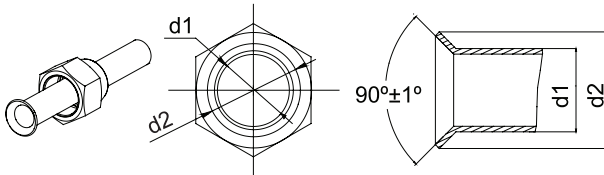

Fig.12
- (1). Cut the connection pipe with the pipe cutter and remove the burrs.
- (2). Hold the pipe downward to prevent cuttings from entering the pipe.
- (3). Remove the flare nuts at the stop valve of the outdoor unit and inside the accessory bag of the indoor unit, then insert them to the connection pipe, after that, flare the connection pipe with a flaring tool.
- (4). Check if the flare part is spread evenly and there are no cracks (see Fig.12).